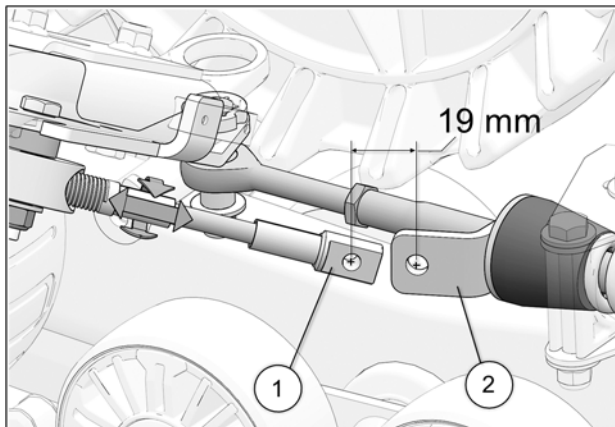

Fig. 24
14. Turn the vehicle's steering wheel to its maximum point of travel on the left. While maintaining pressure on the steering wheel, turn threaded rod to adjust length of cable. See Fig. 24
15. Position cable end hole (1) 19 mm [$\frac{3}{4}$ in.] short of support plate mounting hole (2). See Fig. 24